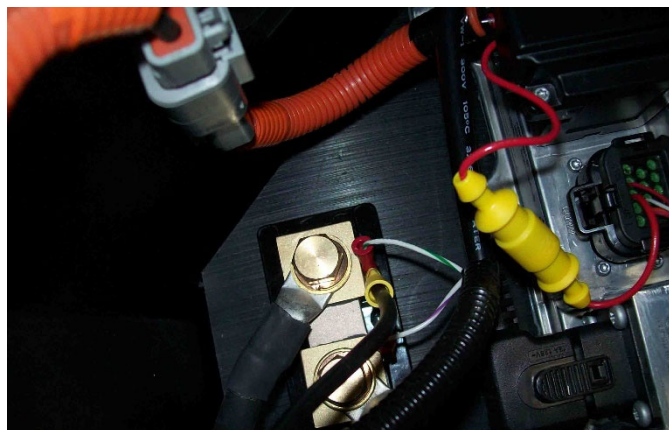
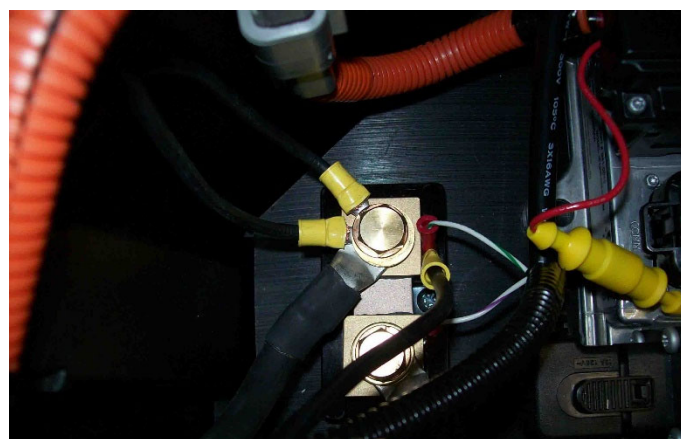

Fig. 12
Fig. 13
3. These two wires will need to be connected to the shunt resistor at the battery negative cable post. These wires should be oriented such that they are resting atop the pack negative cable. (Fig. 12, Fig. 13)